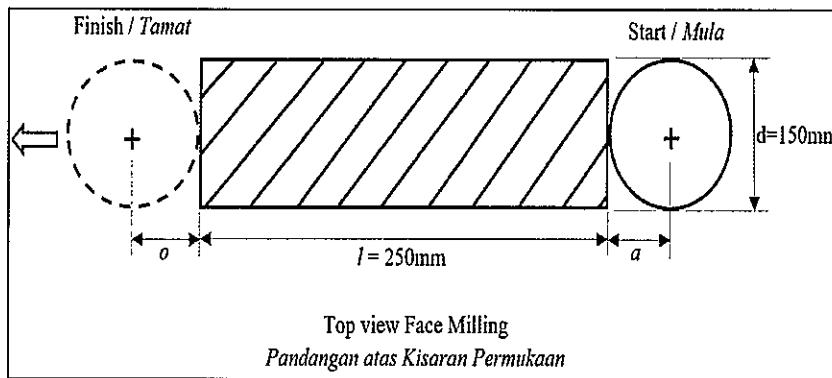

Figure 2c / Rajah 2c
- (c) A face milling operation is used to machine 6.0 mm depth in a single pass from the top surface of rectangular piece of cast iron measuring 250 mm long by 150 mm wide as shown in **Figure 2c**. The cutter has 12 teeth (cemented carbide inserts) and is 150 mm in diameter. The cutting speed is 120 meters per minute (mm/min) and the chip load is 0.35 mm per tooth. Calculate the following: